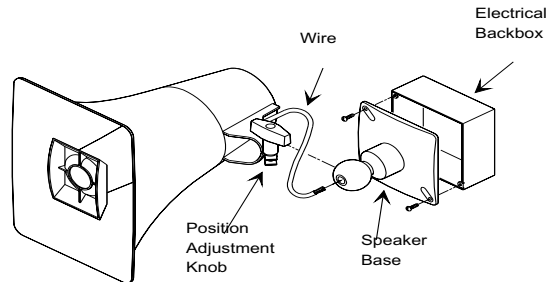

Figure 2 - Mounting to an Electrical Backbox
- Connection to an electrical backbox is accomplished by channeling wire through the ball of the base and making appropriate connections. (See Figure 2). The base has holes punched for a double-gang square box, but by punching out additional knockout holes, the base can be mounted to a single-gang or octagon box.